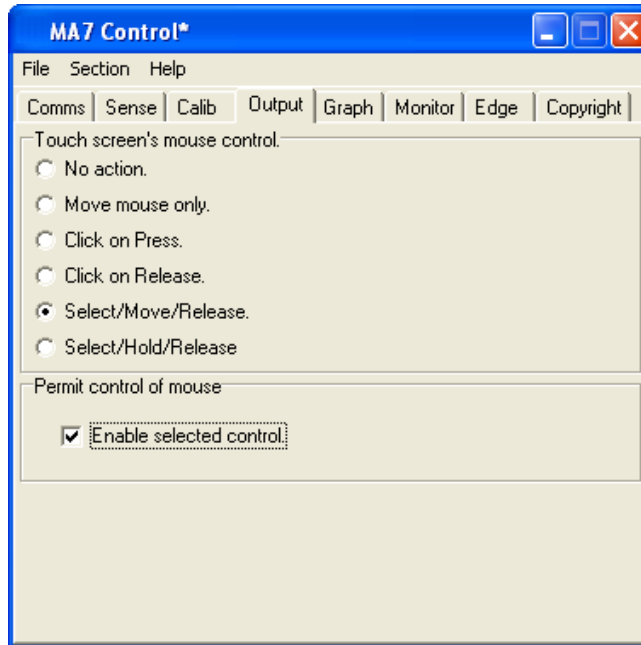

Fig 7
2. Select the mouse control required for your application (Fig 7).